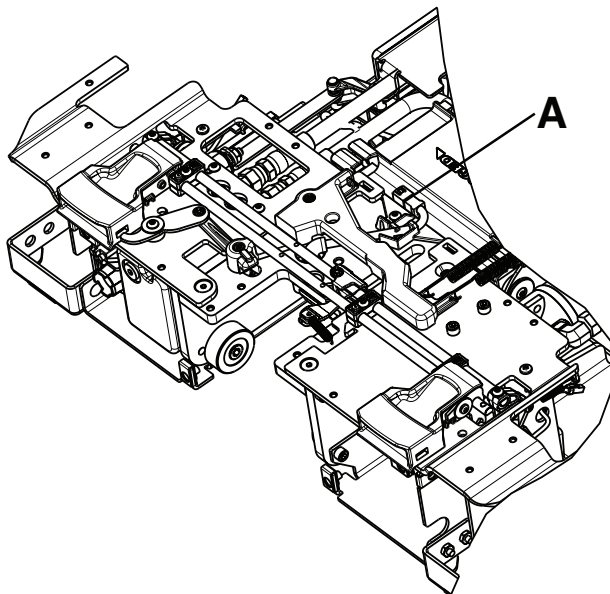

Figure 28 – Main cable assembly
3. Unplug the TPS cable (A) from the main cable assembly (Figure 28).